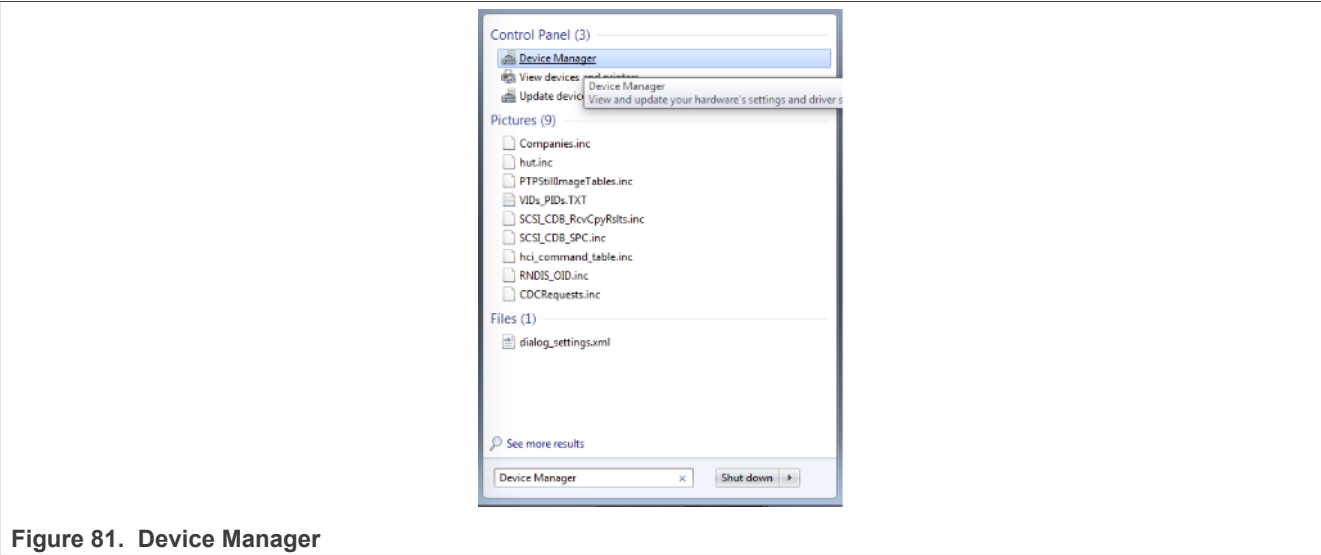

Figure 81. Device Manager
1. To determine the COM port, open the Windows operating system Device Manager. This can be achieved by going to the Windows operating system **Start** menu and typing **Device Manager** in the search bar, as shown in Figure 81.